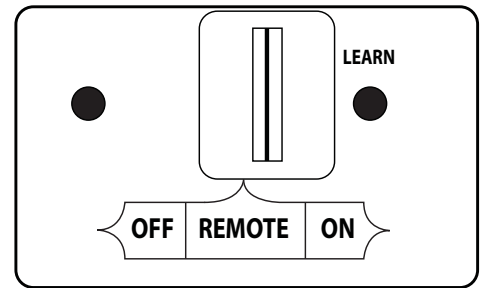

Fig. 43-1 Remote receiver detail (ON)
1. Locate the 3-position switch on the remote receiver (see Fig. 43-1), and slide the switch to the **ON** position.